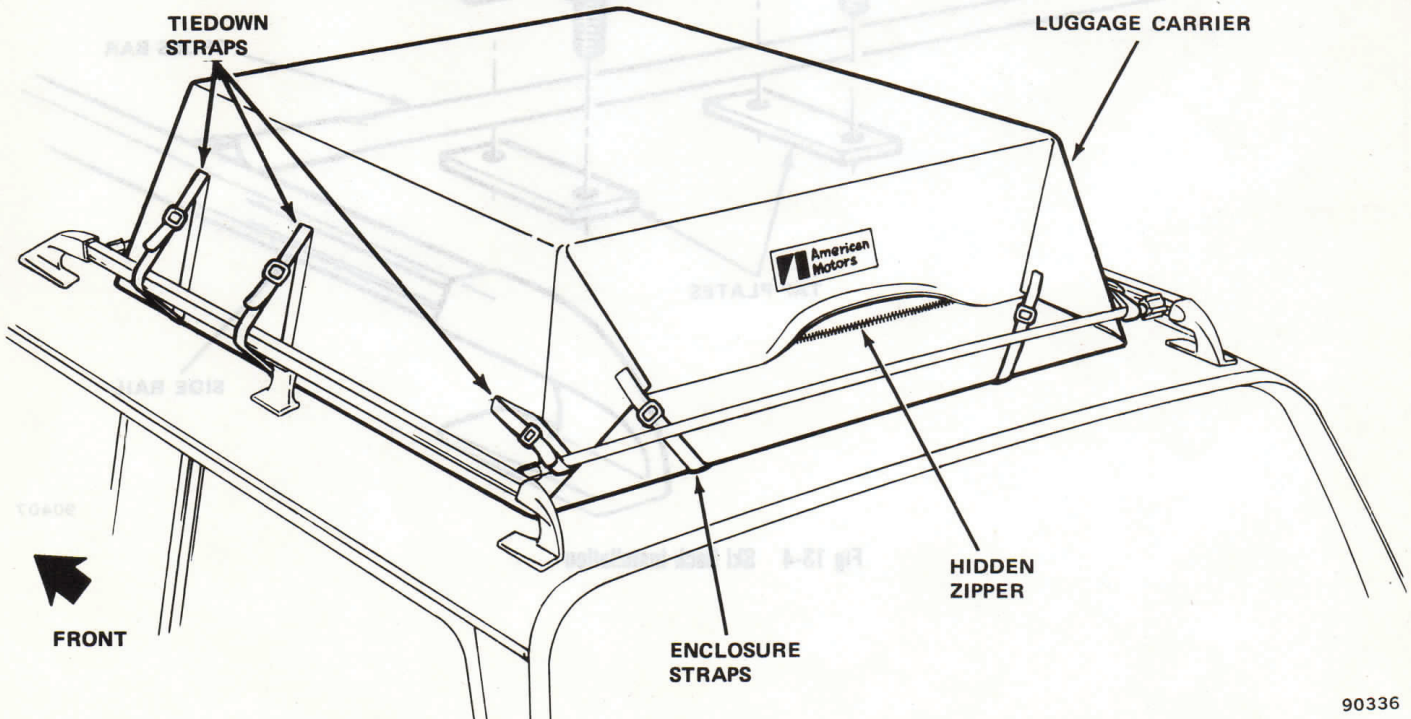

Fig. 13-3 Luggage Carrier Installation
and rugged steel frame provide extra capacity for equipment. Six straps secure the carrier to the luggage rack as shown in figure 13-3.
(2) Position luggage carrier on luggage rack and fasten six straps securely to rack rails as shown in figure 13-3.
(3) Align front and rear ski carriers and tighten attaching screws securely.